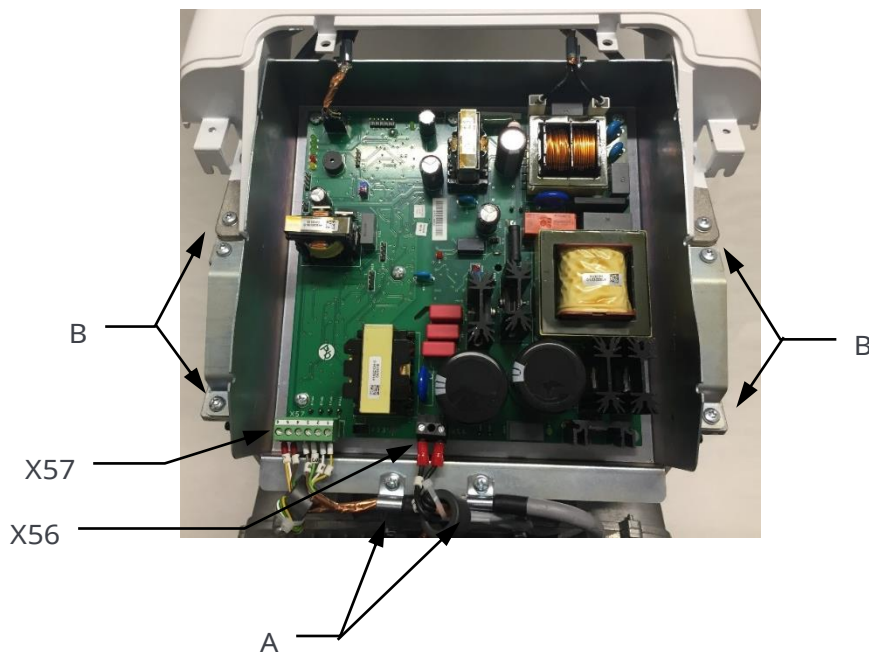

Figure 53
8. Connect X56 and X57 connectors and fix the cables fixing clamps "A" (Figure 53).